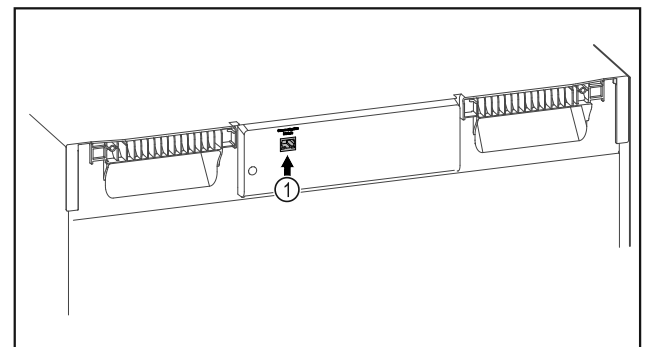

Fig. 150
- ❑ SmartModule Fig. 150 (1) is in use.